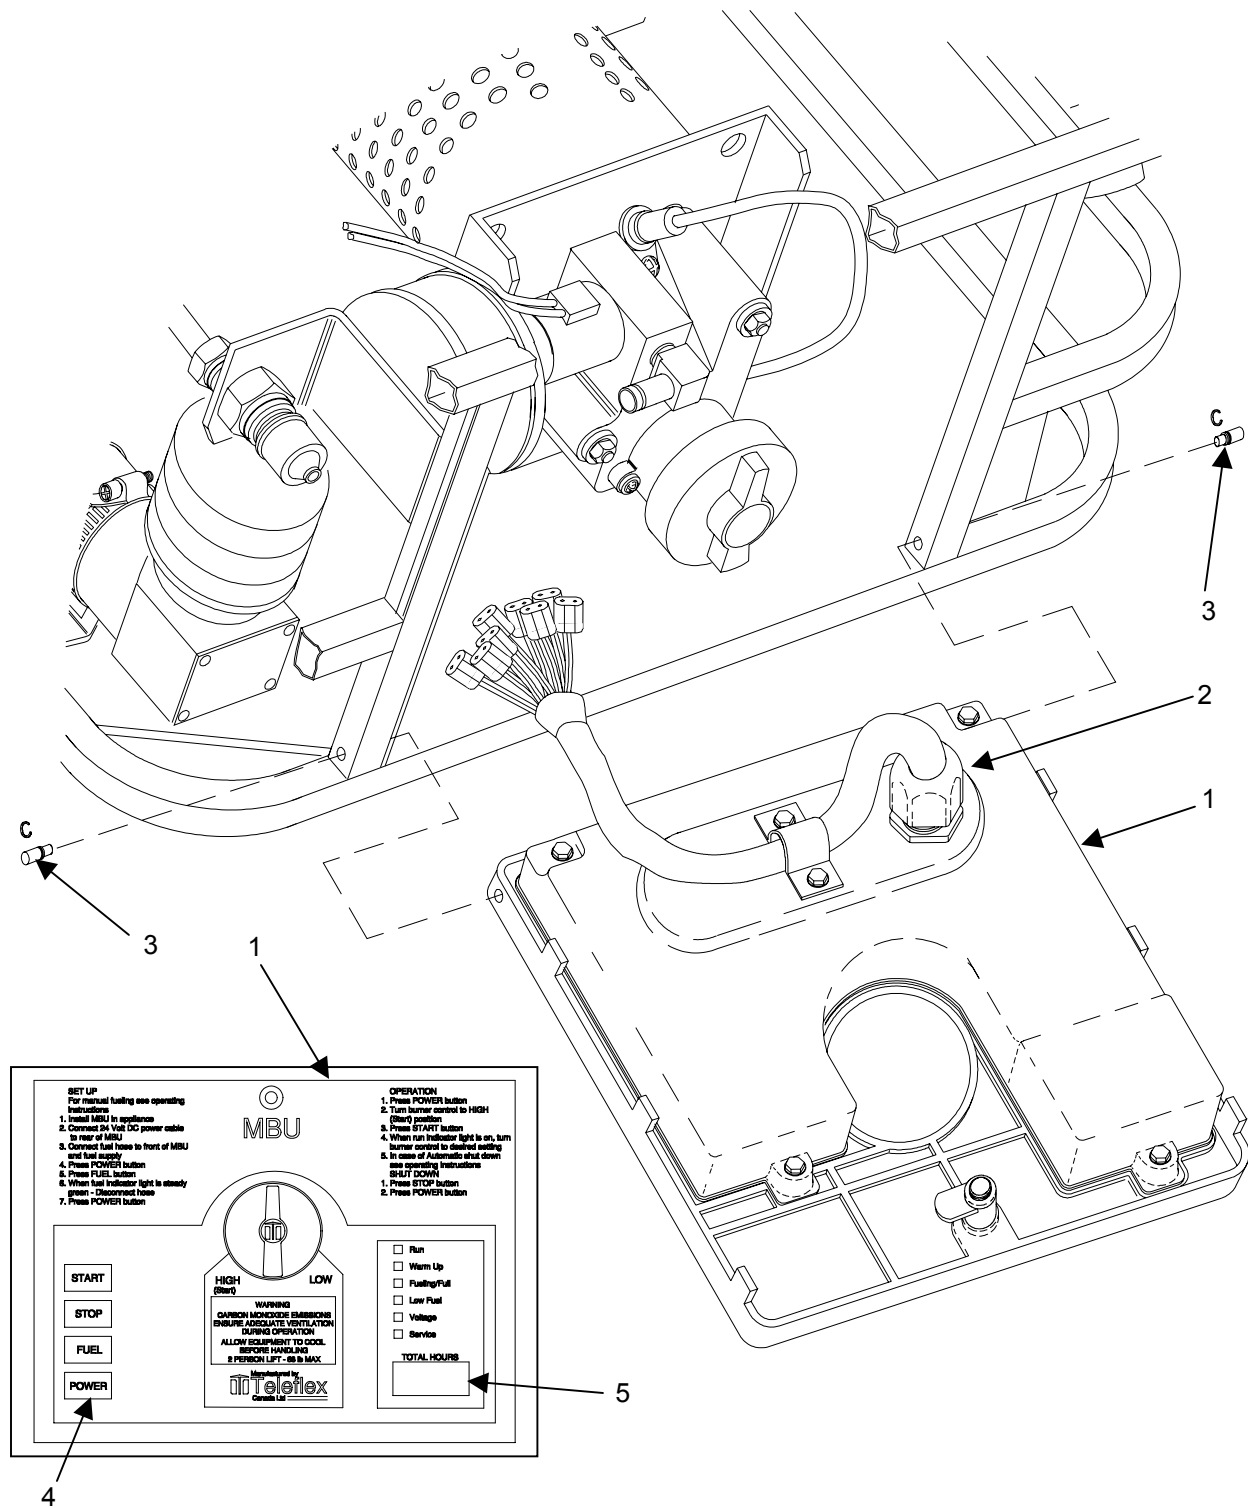

Figure 1. Inspect the Controller Assembly
1. Inspect condition of controller assembly including the control panel (**figure 1, item 1**), harness and connector housing (**figure 1, item 2**), and hinge pins (**figure 1, item 3**) for damage such as a broken or cracked housing, or loose, missing or bent hinge pins, frayed insulation, loose or exposed wires or broken connector on harness. If there is visible damage which prevents normal operation of the MBU, replace the controller assembly.
3. Push the POWER Button (**figure 1, item 4**). The indicator lights will flash on and off for 3 seconds, and the hour meter (**figure 1, item 5**) background light will illuminate. The hour meter will display a series of characters before displaying the actual number of hours the MBU has been in operation. If the background light does not come on, or if the display appears faded, black, or otherwise illegible, replace the controller assembly.